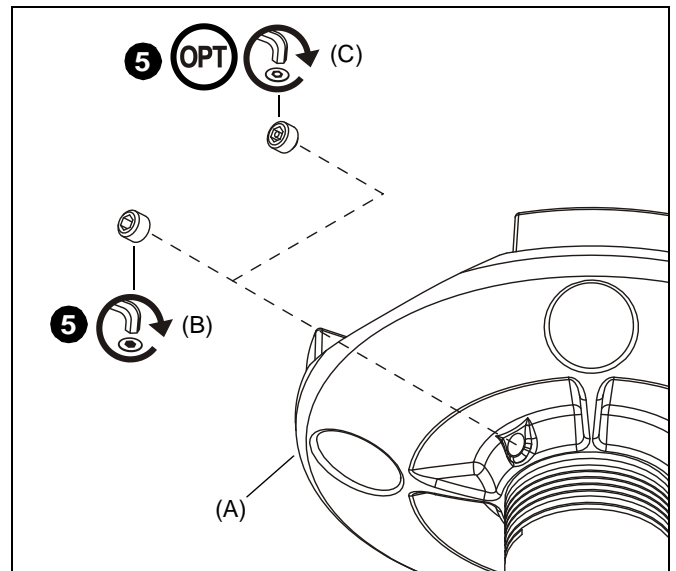

Figure 4
7. Using hex key (D), secure extension column by one of the following methods (See Figure 4):
- Install screw (B) into threaded hole, tightening firmly against column.
- **OPTIONAL:** Install security screw (C) into threaded hole, tightening firmly against column.